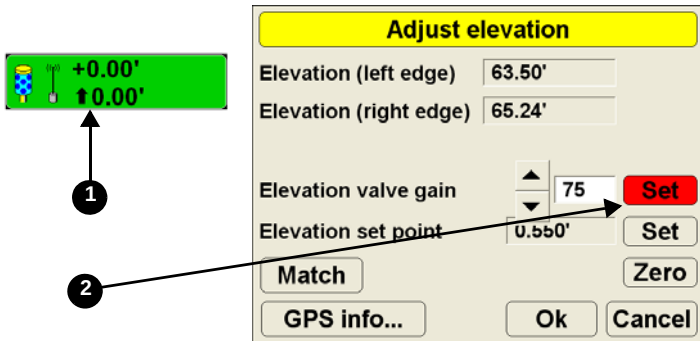

Figure 10-18. Press Elevation Control Key then Set
2. Press the *Elevation valve gain* **Set** key, changing it to red (Figure 10-18 on page 10-20).